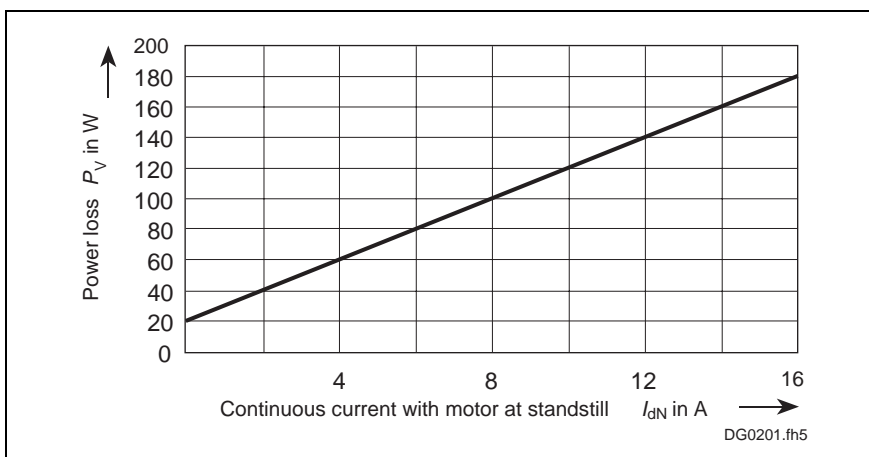

Fig. 10-1: Determining the power dissipated in the control cabinet
- ⇒ Using the I_{dN} value of the motor selected, find the value in the diagram in Fig. 10-1 for the current-dependent power dissipation $P_{V, DKC}$.